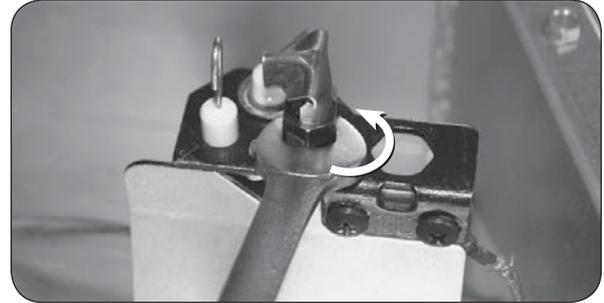

Fig. 4-2 Loosen pilot head
1. Using a  $\frac{7}{16}$ " wrench, carefully loosen the pilot head a half-turn counter-clockwise (see Fig. 4-2).